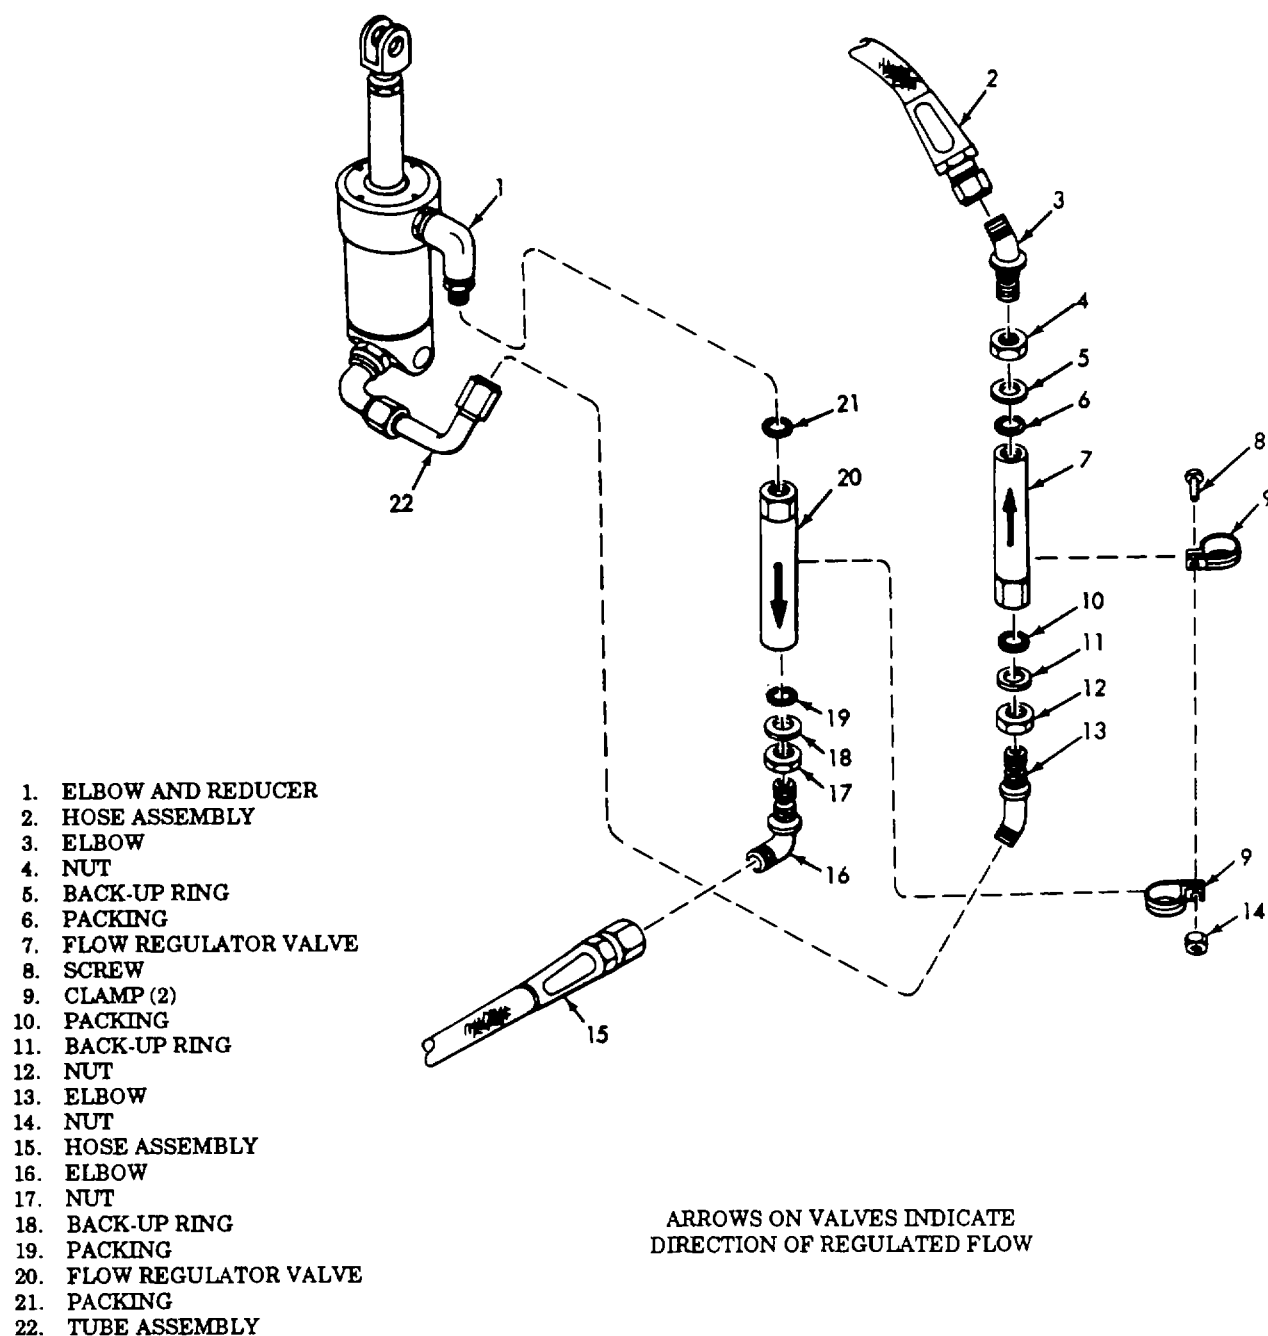

Figure 3-79. Elevation Cylinder -Flow Regulator Valves Removal.
a. *Removal* (fig. 3-79)
(1) Place vehicle in park position, fully retract elevation cylinder piston.
Observe directional flow arrow on valves. They must be pointing in same relative direction as shown in figure 3-79.